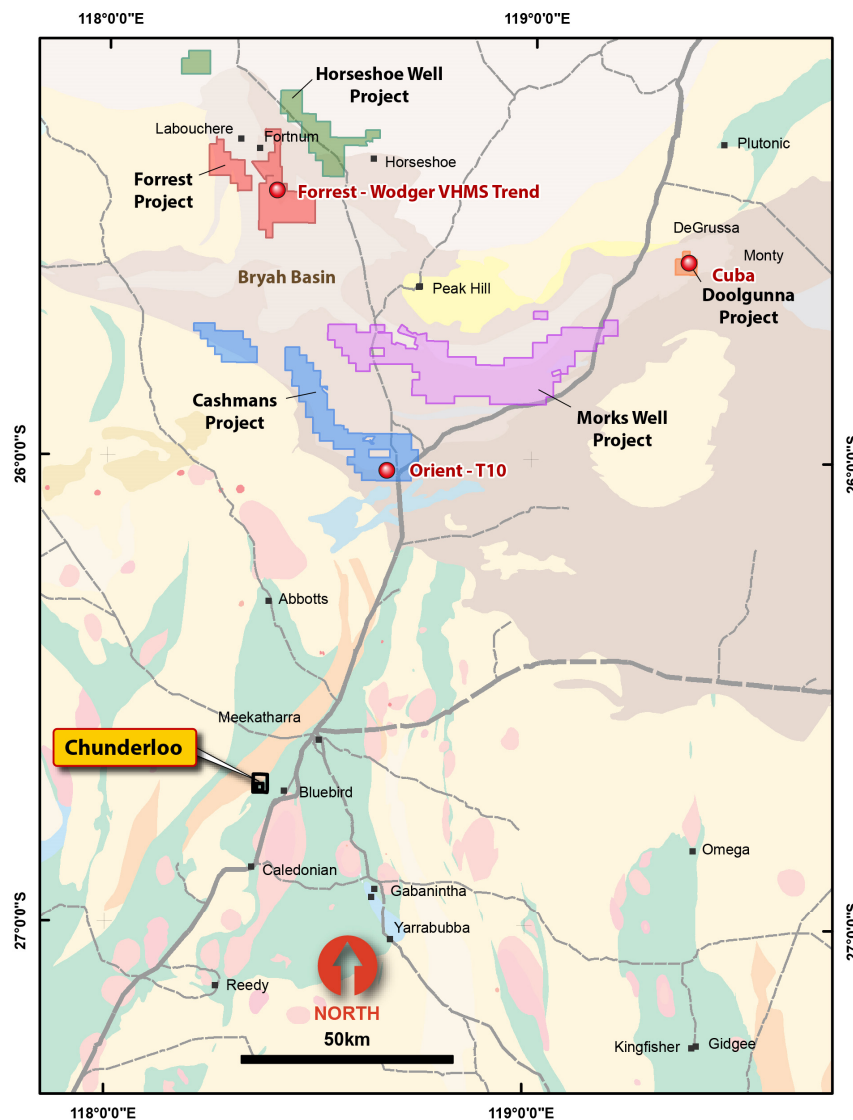

Figure 4: Auris's copper-gold exploration and mining portfolio with highly prospective target locations.
1. The Forrest Project tenements (Figure 4) have the following outside interests: